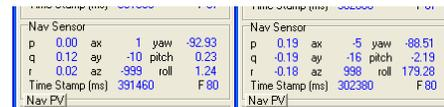

Figure 3. Nav Sensor section of the NAV/GPS tab ("az" bias shown).
1. Locate the "Nav Sensor" section on the "NAV/GPS" tab of the MIDG II Display utility (Figure 3). The column of data which will be used is "ax, ay, az."
2. Using the flat surface, place the unit on the "-z" axis (product label facing up) and record the "-az" value. Flip the unit over to the "+z" axis (product label facing down) and record the "+az" value (Figure 3).